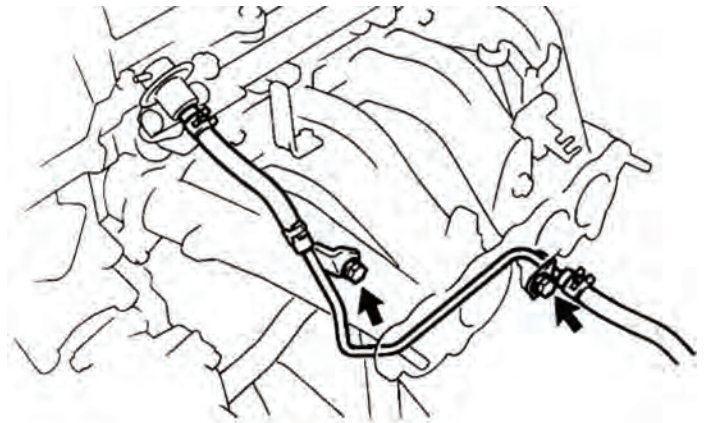

Figure 9
- 24. Remove the 2 bolts from the fuel return pipe and disconnect the fuel return hose from fuel pressure regulator. See Figure 9. Caution: Plug fuel return hose so that no fuel will spill. Set pipe and hose aside.